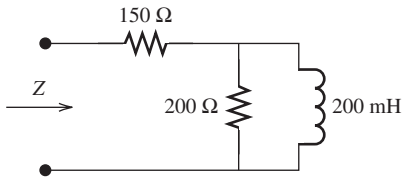

FIGURE P6.20 Circuit for Problem 6.20.
- 6.20** (B)* What is the total impedance of the circuit in the Figure P6.20, if the frequency of the circuit is $200/\pi$ Hz? Provide the answer to two decimal places.